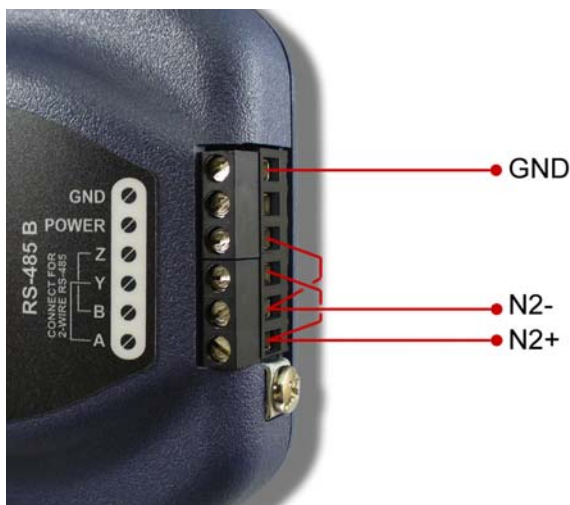

Figure 10: N2 Bus Cable Connection to "RS-485 B" Port
- Connect the N2 bus wiring to the selected RS-485 port by using twisted-pair cable connected as shown in Figure 10 ("RS-485 B" port example shown). Connect the N2+ wire to terminal "A", the N2- wire to terminal "B", and the network ground wire to terminal "GND". Also install jumper wires connecting terminal "A" to terminal "Y", and terminal "B" to terminal "Z". Continue this connection scheme throughout the remainder of the network. Always connect each unit in a daisy-chain fashion, without drop lines, star configurations, etc. For further N2 network wiring requirements and procedures, please refer to the appropriate JCI network installation documentation.